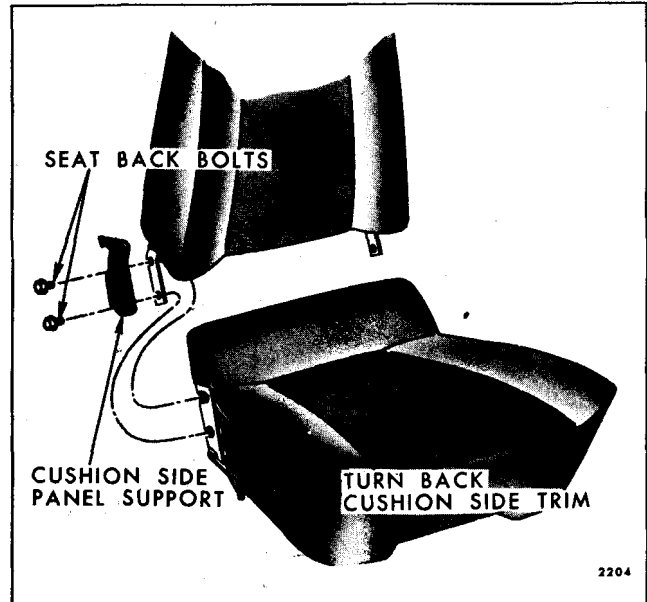

Fig. 14-51-Bucket Seat Back Removal
3. With seat side panels removed, remove hog rings securing seat cushion trim side trim at rear and bottom of seat and turn back trim sufficiently to expose seat back hinge-to-seat cushion frame attaching bolts (Fig. 14-51).
4. Remove seat back hinge-to-seat cushion frame attaching bolts from both sides of seat and remove seat back assembly from seat cushion (Fig. 14-51).